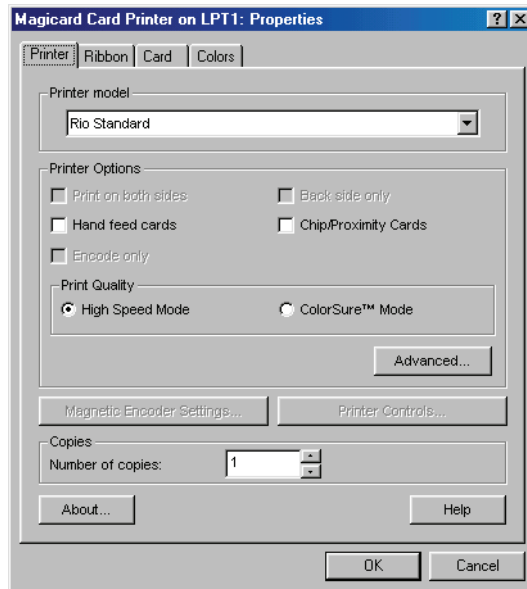

Figure 9-6: Printer Configuration Options – Printer Tab
4. Click the  button. The printer control window appears displaying the printer configuration options beginning with the Printer Tab (see Figure 9-6).
6. Based on this selection, certain options are enabled in the “Printer Options” and “Print Quality” fields according to the features within the printer (see Figure 9-6). Of these options, enable those that apply to your printer’s capabilities and your printing requirements. For example, if you have a Tango Printer (capable of printing on both sides of a card), you may want to enable the “Print on both sides” feature for two-sided card printing.